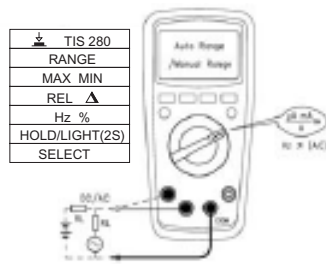

Figure 10
8. AC and DC current measurement (See Figure 10)